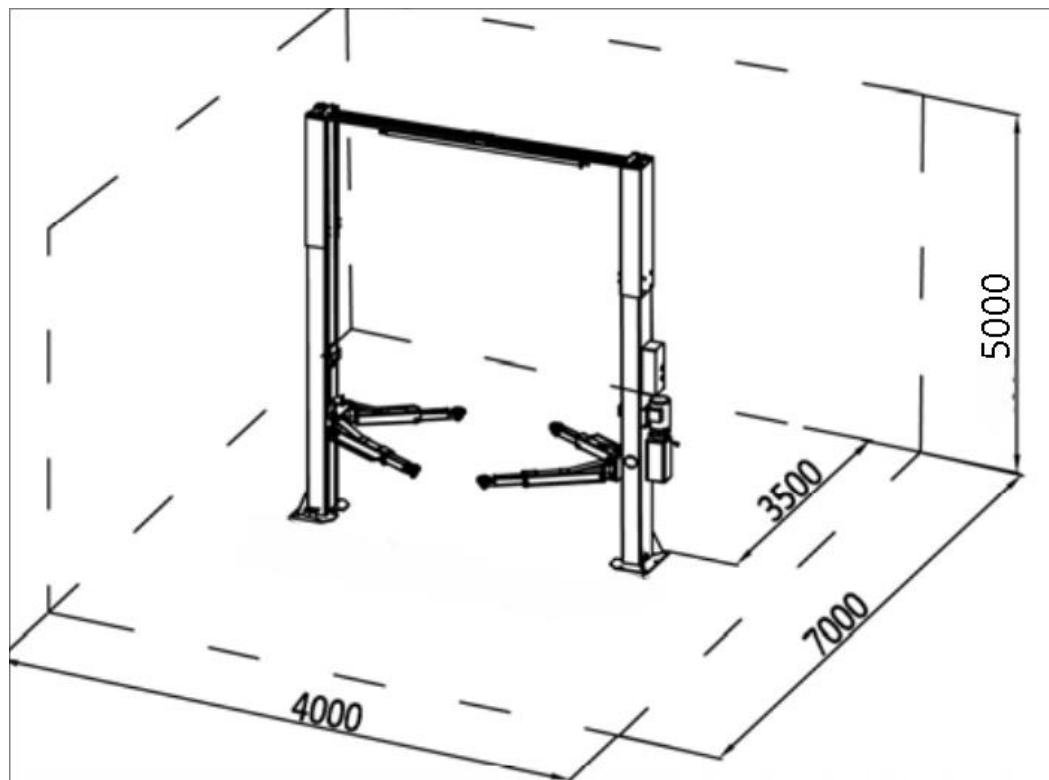

Figure 4
7.1 The equipment shall be installed in a dust-free and contamination-free indoor environment with adequate lighting (illumination level  $\geq 100$  Lx). The lift must be installed at specific safety distances from walls, columns, and other equipment. The minimum distance from the wall shall be 1000mm. To ensure emergency access and operational convenience, sufficient space shall be reserved for safety passages. The indoor height shall not be less than 4000mm (see Figure 4).